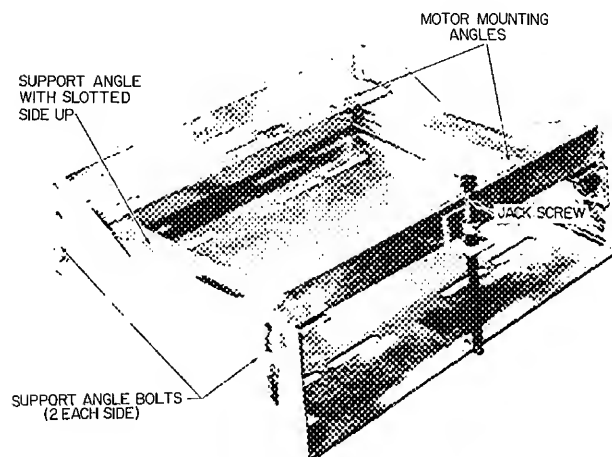

Fig. 1 — Motor Mounting Bracket
2. Loosen four support angle bolts. Refer to Fig. 1.